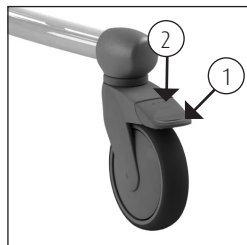

Figure 1 Swivel wheel.
- The brake can be applied on the Flexo by pushing the blue lip (1) on the wheel downwards (See figure 1).
- In order to take the Flexo off the brake, the same lip on the wheel must be moved upwards by tapping the upper side of the lip (2) (See figure 1).